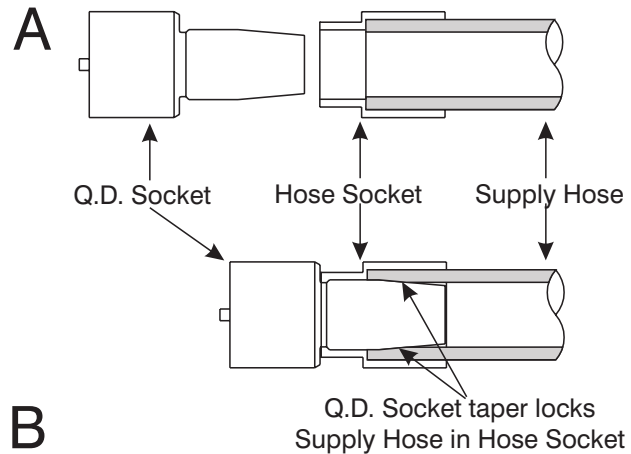

Figure 11-15. Thread Tapered End of Q.D. Socket into Hose Socket.
6. Apply a 2-inch open-end wrench across the flats of the Hose Socket (14) to hold the assembled hose and socket in place.
7. Start the tapered end of the Q.D. Socket (17) into the Hose Socket. See Figure 11-15-A.
8. Apply a xxx-inch open-end wrench across the flats of the Q.D. Socket (17), and thread it into the Hose Socket (14). See Figure 11-15-B.